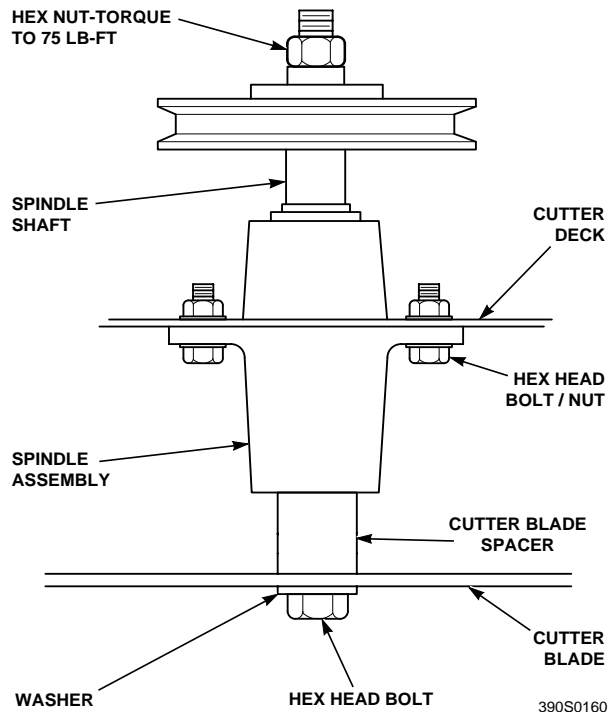

Figure 7-7. Blade Replacement
3. Secure the cutter blades to prevent them from rotating, (use the optional Blade Buddy tool P/N 9212, to assist in securing the cutter blades), remove the nut from the blade attaching bolt. Remove the cutter blade, bolt and spacer from the spindle shaft. (Figure 7-7)
6. Install the hex nut to the blade bolt at the top of the cutter spindle. Secure the blades from rotating and torque to 75 ft/lbs. (See Figure 7-7)